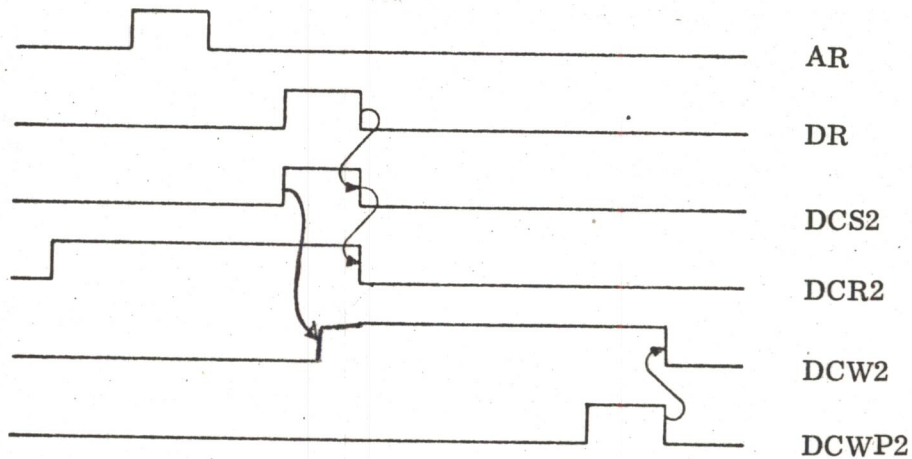

Figure 5.5. Register WRITE phase in LOAD
The information from the A-block is read the same way as in interregister instructions in cycle DC 0. The WRITE phase of DC 2 is triggered by DATA READY (DR) as shown in figure 5.5.